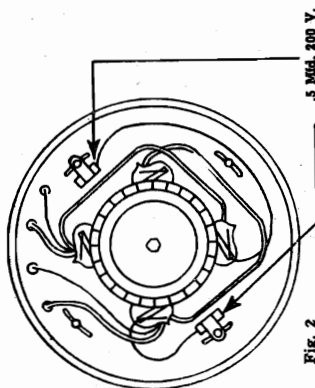

Fig. 2
**FOUR CYLINDER PLANTS.** For four cylinder plants attach a condenser to the positive and negative brushes as shown in Figure 2.